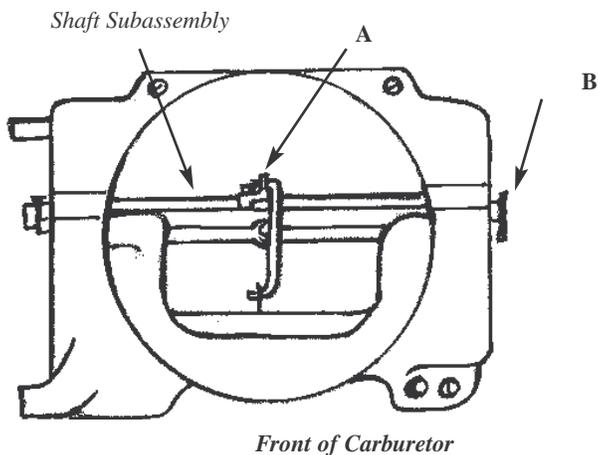

FIGURE 3
- Remove the screw A (Figure 3) that holds the choke linkage to the shaft subassembly.
7. Reinstall screw A and related linkage as shown in Figure 3. **WARNING:** This procedure can only be done once as the shaft threads are not reusable. Be very careful not to strip out the screw by overtightening. Stop turning when the screw head contacts the bracket.